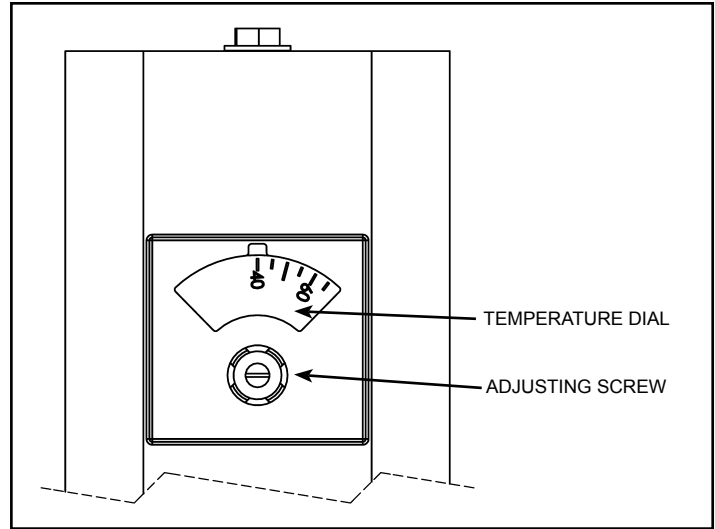

Figure 12. Aquastat/Thermostat Details
- If the temperature dial is visible, turn the dial by inserting a small slotted screwdriver in the screw-head just below the window in the cover. Turn the scale to the desired setting (see Figure 12).